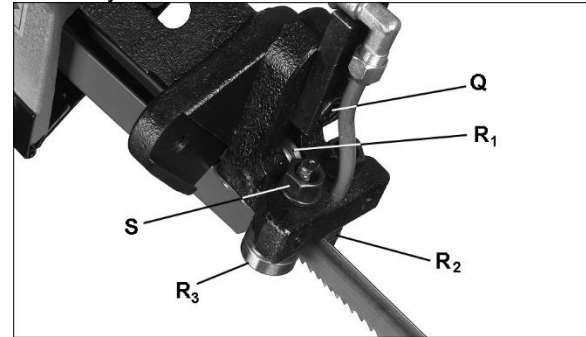

Figure 8-9: blade guide setting
- 2) Loosen the bolt (Q, Figure 8-9) and adjust the assembly so that the rear bearing (R₁) is approximately 0.002 to 0.003 inches from the back of the blade. Also, the inside bearing (R₂) should very lightly contact the blade. Tighten bolt (Q).
If there is a gap, loosen bolt (Q, Figure 8-9) on each blade guide assembly and rotate blade guide assembly until gap is eliminated between square and ruler.
Retighten bolts (Q, Figure 8-9).